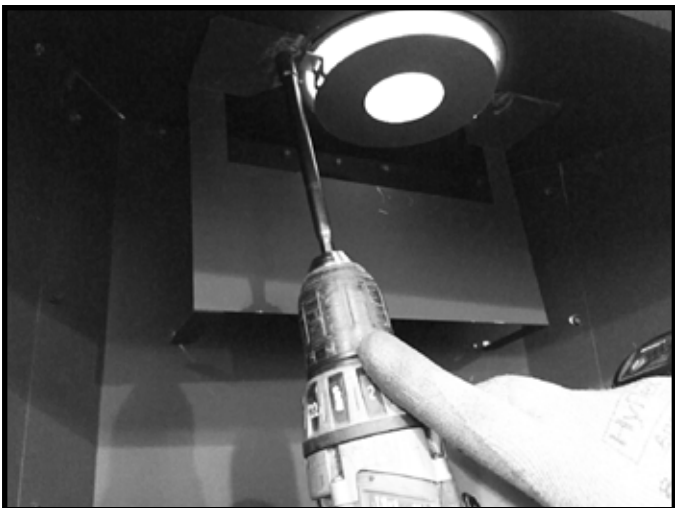

Figure 4.17 12 ft. to 30 ft. Vertical Run
- The top vent flue baffle will be turned to install below the level of the firebox top for 12-30 ft vertical runs of vent. See Figure 4.17.